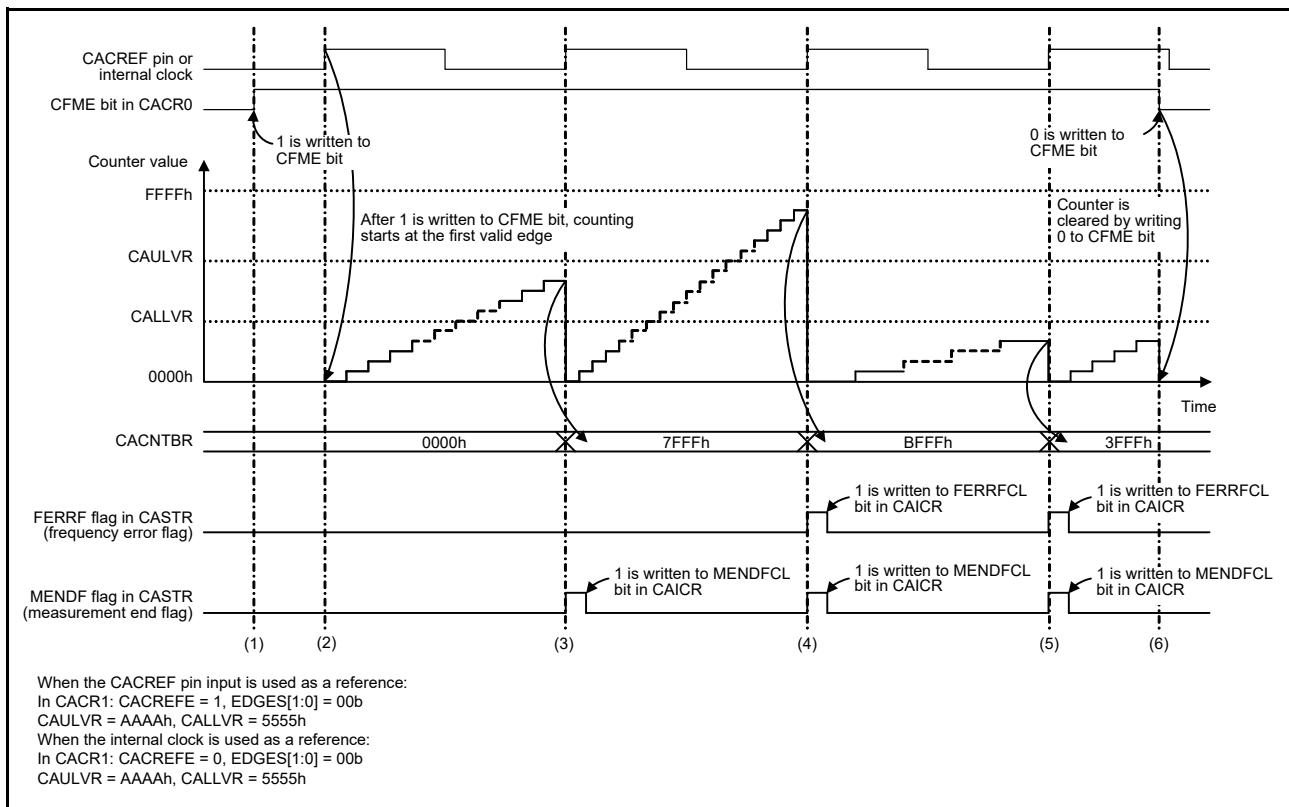

Figure 10.2 CAC operating example
The CAC measures the clock frequency using the CACREF pin input or an internal clock as a reference. Figure 10.2 shows an operating example of the CAC.
In Figure 10.2:
- The timer starts counting up if the valid edge selected in the CACR1.EDGES[1:0] bits is input from the measurement reference clock. The valid edge is a rising edge (CACR1.EDGES[1:0] = 00b) as shown in Figure 10.2.